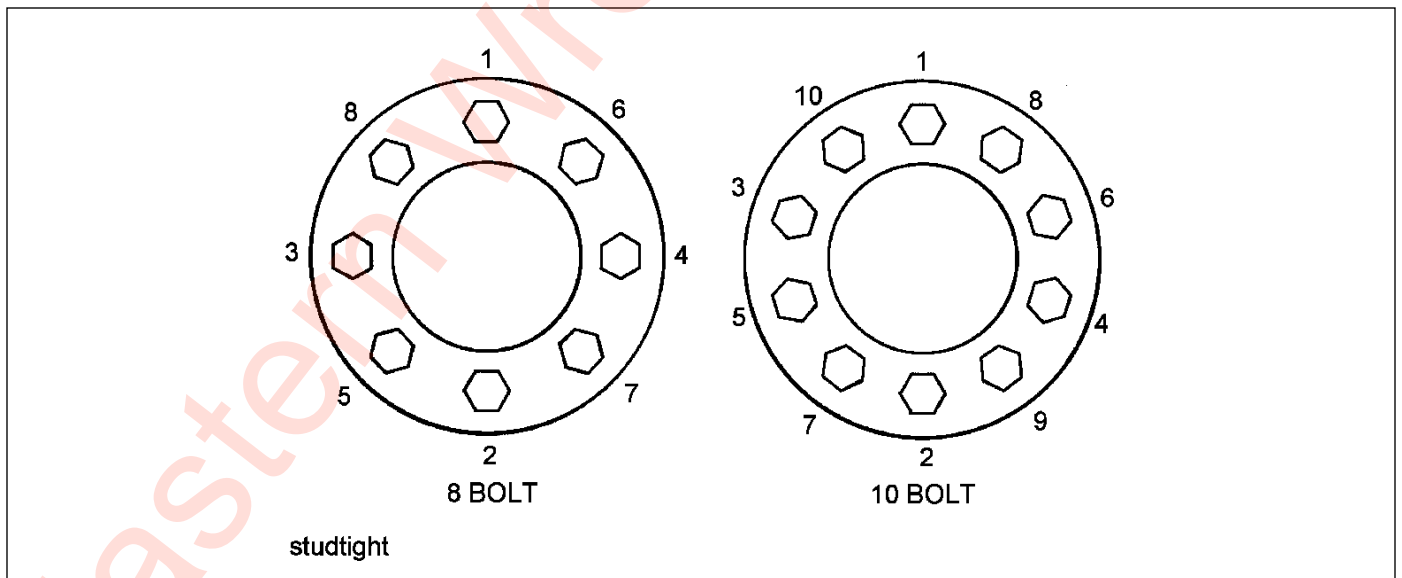

Figure 4-16: Stud Tightening Sequence
3. Install the inner capnuts on the studs and tighten to fifty foot-pounds using the sequence illustrated in **Figure 4-16**. Make certain that the left-handed threads are installed on the driver side of the vehicle and the right-handed threads are installed on the curbside of the vehicle.
4. Tighten the inner capnuts to full torque of 450 to 500 foot-pounds using the sequence shown in **Figure 4-16**.
6. Install the outer capnuts and tighten to 50 foot-pounds using the sequence in **Figure 4-16**. Then tighten to full torque of 450 to 500 foot-pounds using the same sequence.
Improper tightening sequence	Follow proper tightening sequence (See Figure 4-16.)